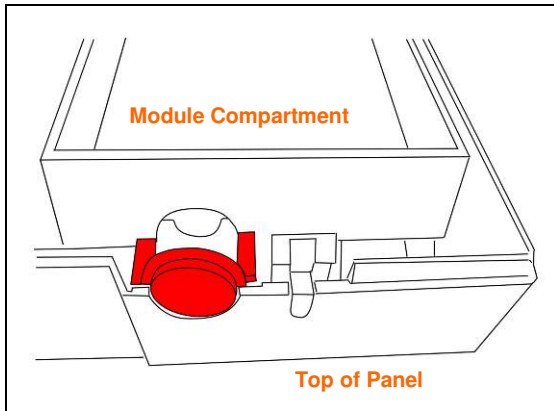

Figure 3
3. Remove the plastic covering the antenna aperture by cutting the plastic tabs near the module compartment. In *Figure 3* the plastic that should be removed was shaded red.